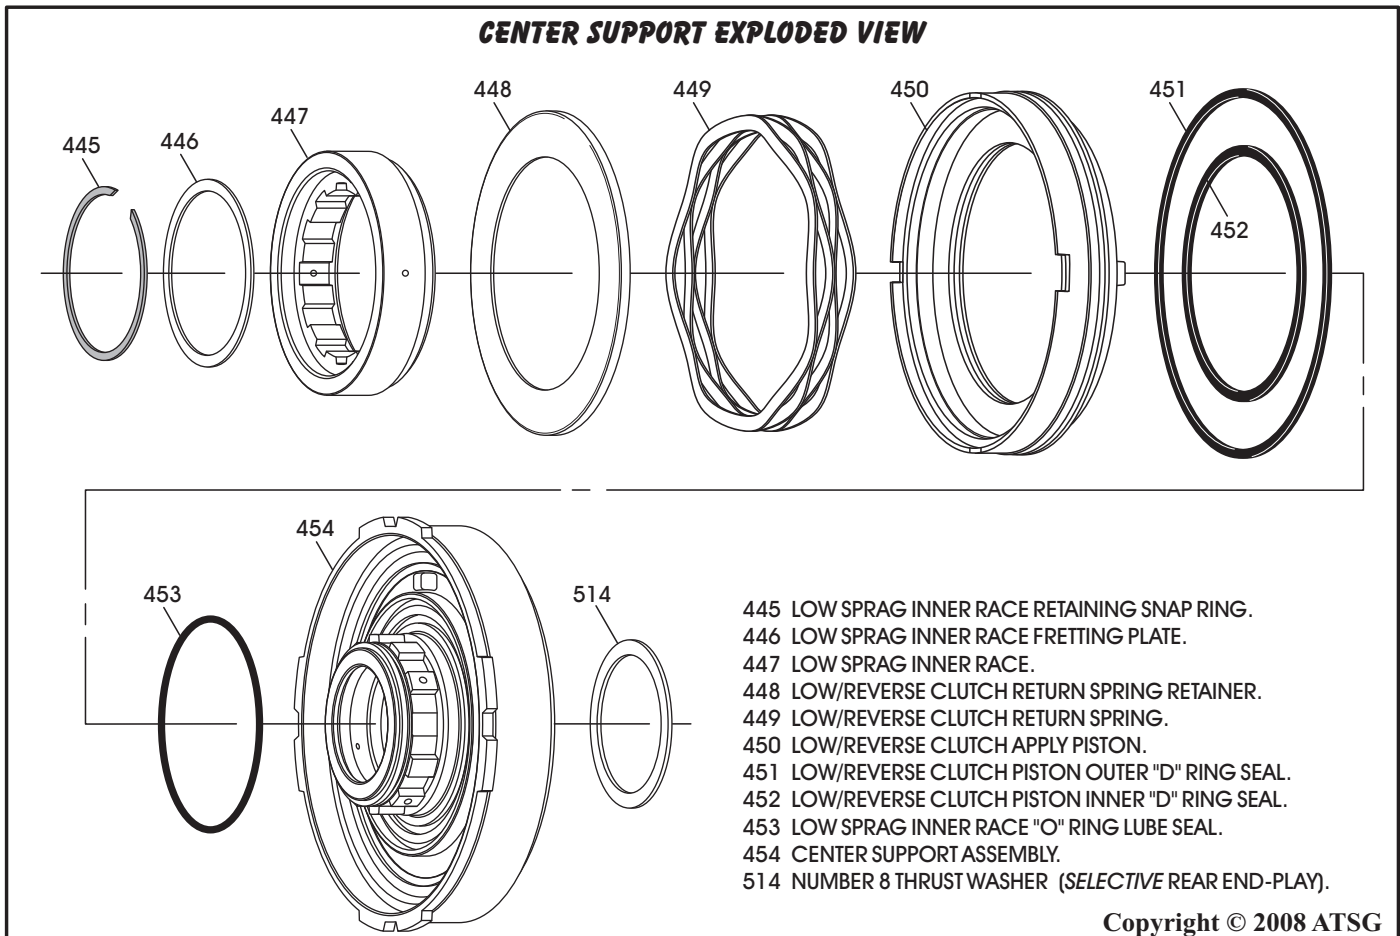

Figure 112
1. Disassemble the center support assembly using Figure 112 as a guide.